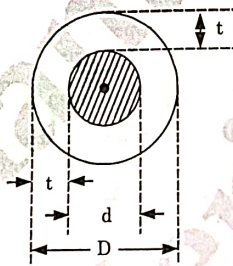

Fig. 3.6.1. Ice coated conductor.
4. Consider a conductor with diameter d . It is coated with ice thickness t as shown in Fig. 3.6.1. Hence the overall diameter of the coated conductor is D .